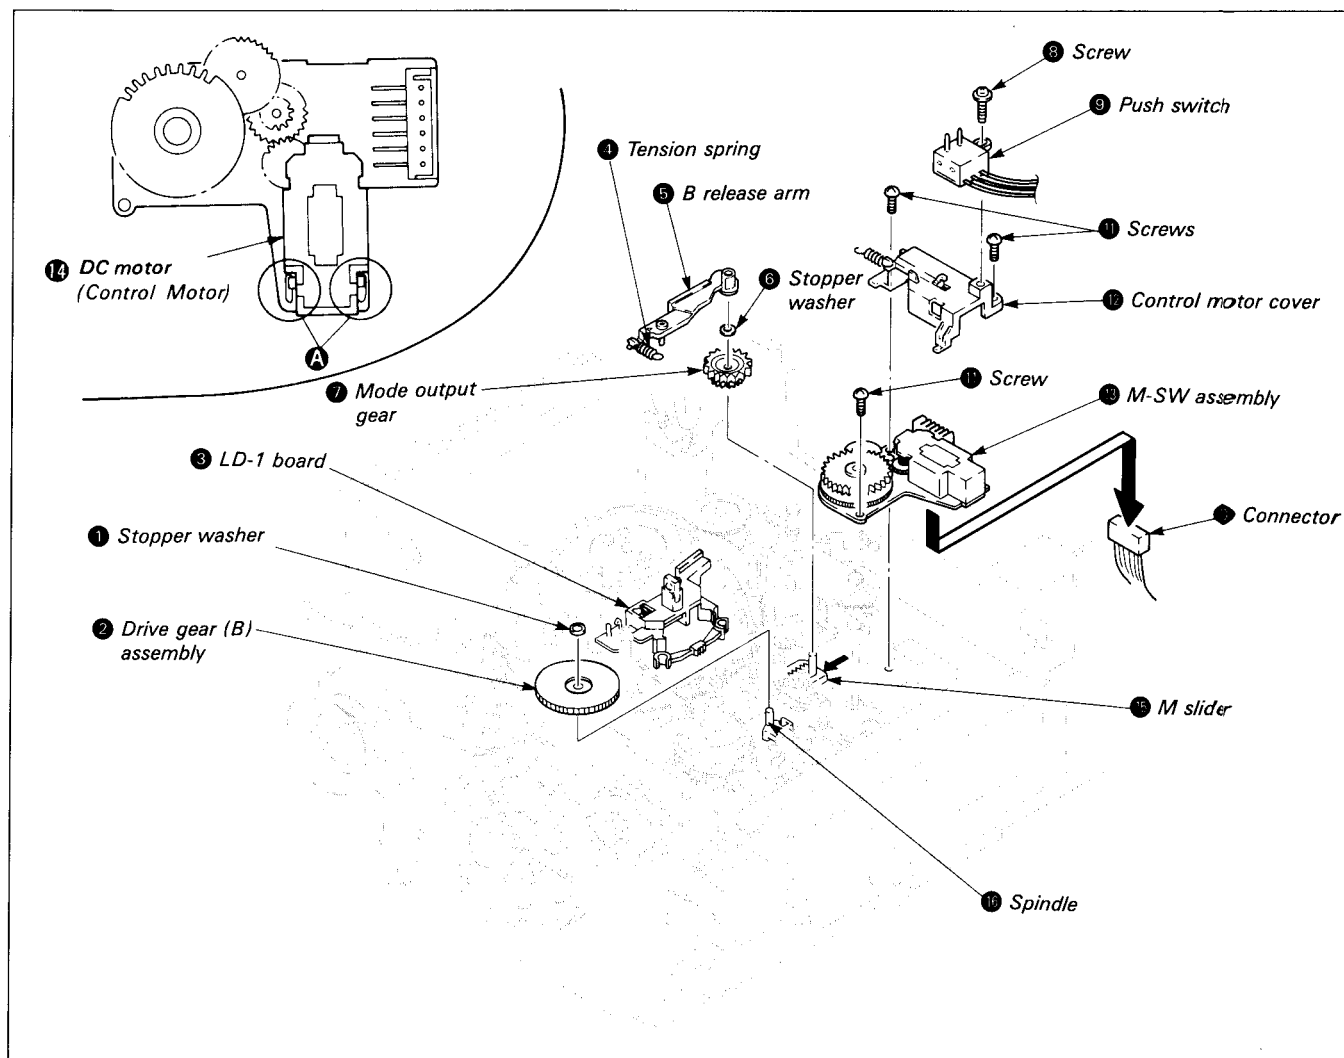

Fig. 7-38.
- 1) Solder the DC motor (Control Motor) ⑭.
- 2) Mount the M-SW assembly ⑬ and the control motor cover ⑩, and tighten the three screws ⑪.
- 3) Connect connector ⑮.
- 4) Mount push switch ⑨ and tighten screw ⑧.
- 6) Check that M slider ⑬ is moved fully in the direction of arrow B.
- 7) Place a half drop of oil on spindle ⑯. (See Fig. 7-38.)